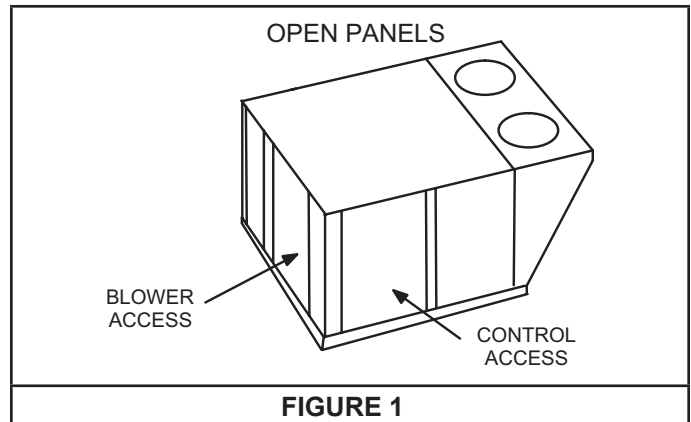

FIGURE 1
- 2 - Open access panels as shown in FIGURE 1.